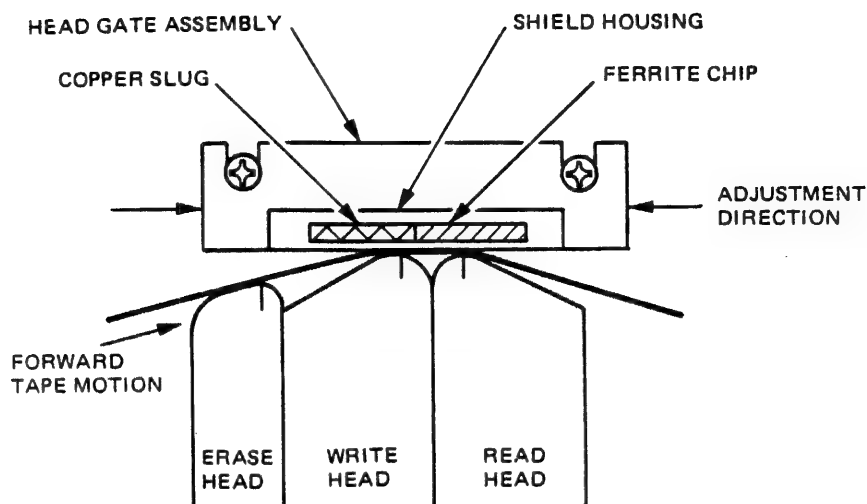

Figure 4-27. Head Gate Adjustment for Dual-Density Systems
- c. Loosen two head-gate screws and reposition gate by moving it in plane shown in Figure 4-27 until a minimum amount of modulation voltage is observed on both channels. Edge of ferrite should be approximately opposite write gap. Verify that shield housing is resting on head block at both front and back.